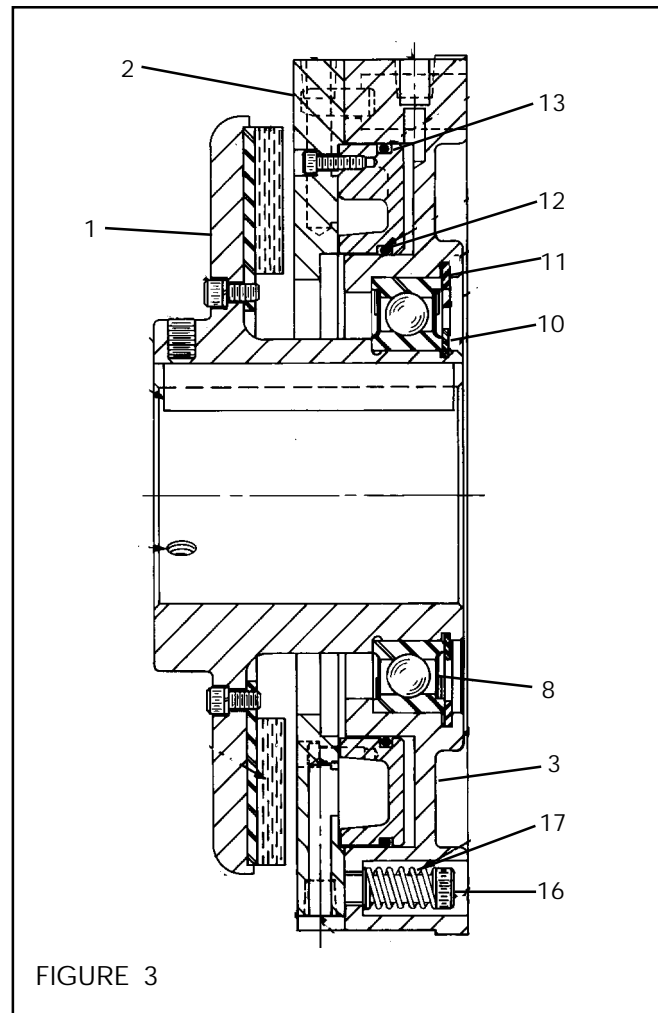

FIGURE 3
1. Remove the Retaining Ring (Item 10) (See Figure 3).
2. Press the Friction Disc Hub (Item 1) out of the Ball Bearing (Item 8) (See Figure 3).
3. Alternately and evenly remove the three old Shoulder Screws (Item 16) and old Return Springs (Item 17) (See Figure 3).
4. Separate the Air Chamber (Item 3) from the Water Jacket Assembly (Item 2) (See Figure 3).
5. Remove the old O-ring Seals (Items 12 and 13) and clean the o-ring seal contact surfaces of the Air Chamber (Item 3) and the Water Jacket Assembly (Item 2) with fresh solvent (See Figure 3).
7. Remove the Retaining Ring (Item 11) and press the old Ball Bearing (Item 8) out of the Air Chamber (Item 3) (See Figure 3).
9. Apply an adequate amount of Loctite® 680 to evenly coat the outer race of the new Ball Bearing (Item 8) and press the new Ball Bearing into the Air Chamber (Item 3) (See Figure 3).
10. Install the Retaining Ring (Item 11) (See Figure 3).
11. Slide the Air Chamber (Item 3) and Ball Bearing (Item 8) onto the Water Jacket Assembly (Item 2) (See Figure 3).
12. Secure the Air Chamber to the Water Jacket Assembly with three new Return Springs (Item 17) and Shoulder Screws (Item 16) (See Figure 3).
14. Support the inner race of the Ball Bearing (Item 8) and press the Friction Disc Hub (Item 1) into the Ball Bearing and Air Chamber (See Figure 3).
15. Install the Retaining Ring (Item 10) (See Figure 3).